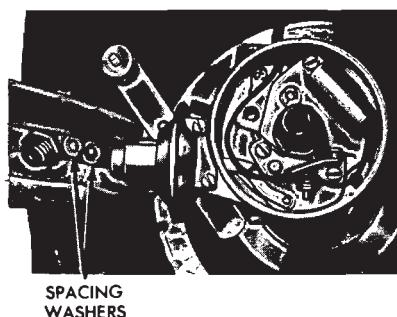

FIG. 9—Vacuum Advance Adjustment
- If the advance is incorrect, change the calibration washers between the vacuum chamber spring and nut (Fig. 9). After installing or removing the washers, position the gasket in place and tighten the nut. **The addition of a washer will decrease advance and the removal of a washer will increase advance.**